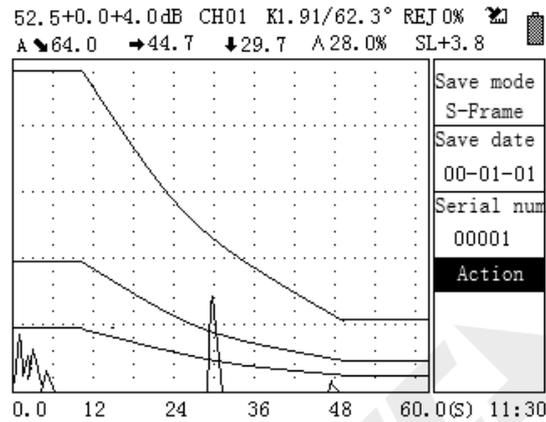

Figure4-10
Press , the instrument displays the Record menu and “Action” is displayed, as shown in Figure 4-10.
If the saved file number already exists, press  to start recording, then the instrument screen waveform display area above the prompt “The file is existed, (OK) replace, (Return) cancel”, at this time and then press  to save the new waveform and parameters, the old waveform and parameters will be overwritten, press  to go back to Figure 4-10, press  to record the number of the reverse display Press  to display the new waveform and parameters, and then press  to display the record number, and finally press the key to record and save the new waveform and parameters.
Press , the instrument displays the record menu, “Action” is displayed, as shown in Figure 4-10, press  to display the record mode, press  or  to change the single amplitude to continuous, then press  to display the record number, select the